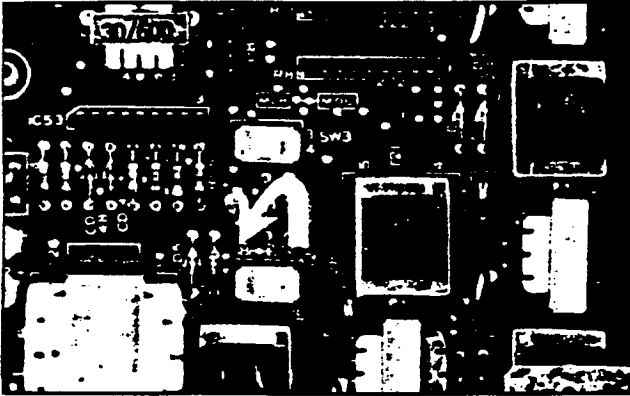

FIGURE 31—MMAU SW2 SWITCH
13.32 Install the AEPU PCB per Paragraph 07.30. The 8Ω output impedance must be selected with the SW2 switch on the MMAU (Figure 31). The switch must be on the side labeled "8".
13.42 The 600Ω output impedance must be selected with the SW2 switch on the MMAU (Figure 31).